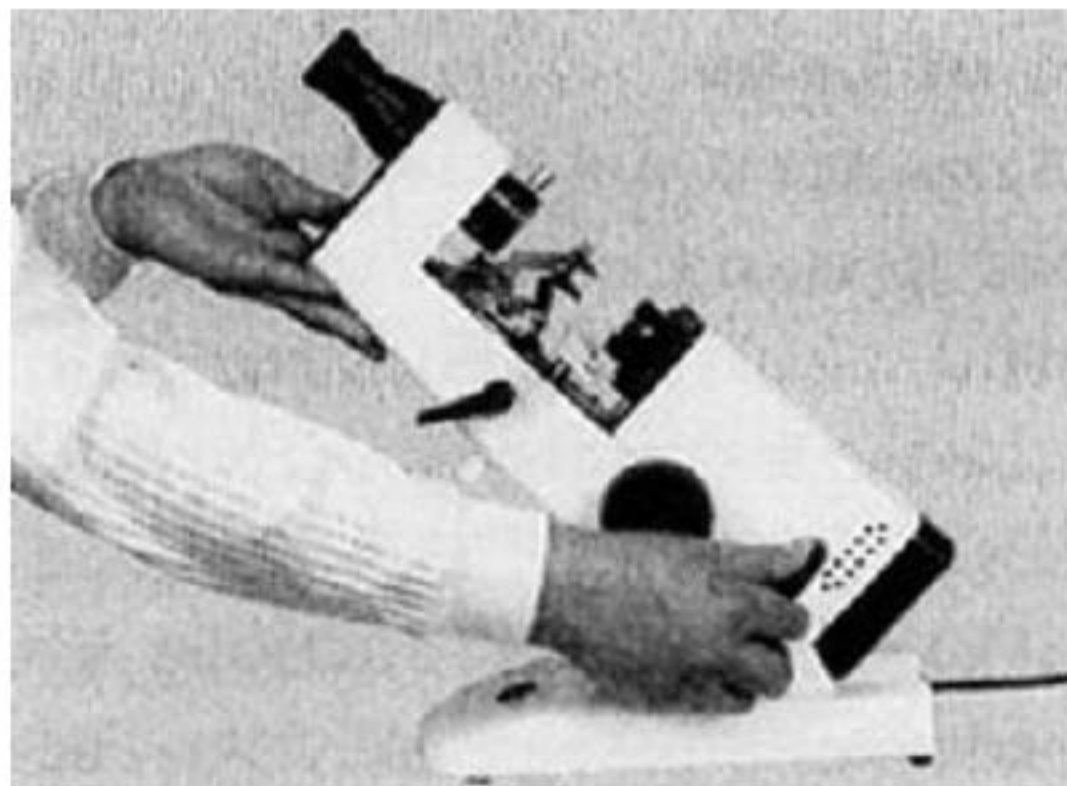

Fig. 14
3.12 Instrument's inclination regulating handle (Fig.14)